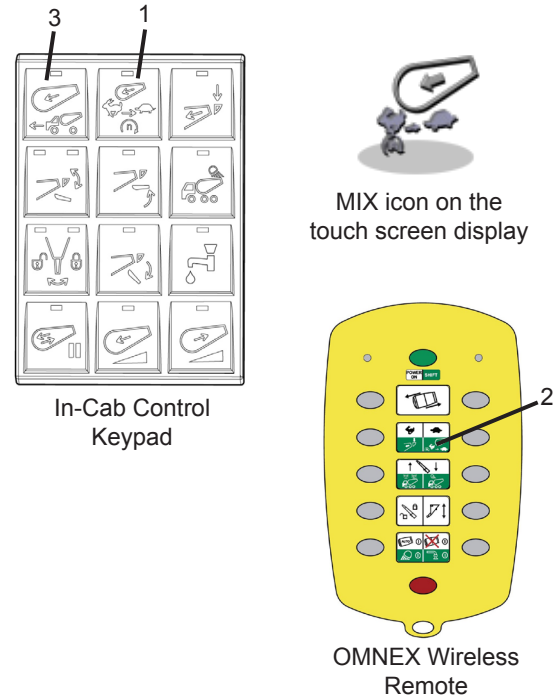

Figure 16
The MIX function is enabled using the in-cab control keypad or OMNEX wireless remote. The MIX function allows for one-touch operation of the mixing function while at the slump rack or prior to job pour. When pressed, the engine RPM will go to the full preset and the drum speed will accelerate to the preset Mix RPM for a preset number of drum revolutions. The button indicator will illuminate and the drum control screen will show the MIX icon on the touch screen display (Figure 16).
2. To enable MIX function, press the MIX button on the in-cab control keypad (Figure 16, Item 1), or while holding the green shift key, press the OMNEX wireless remote button (Figure 16, Item 2).
4. When mixing revolutions reach the preset, the MIX mode will cancel and the engine and drum will slow to IDLE and CONSTANT SPEED respectively. The system will default to Constant Speed mode preset (the constant speed indicator will illuminate) (Figure 16, Item 3).